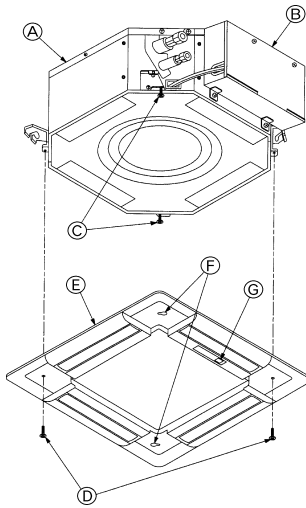

Fig. 8-6
8.3.2. Temporary installation of the grille (Fig. 8-6)